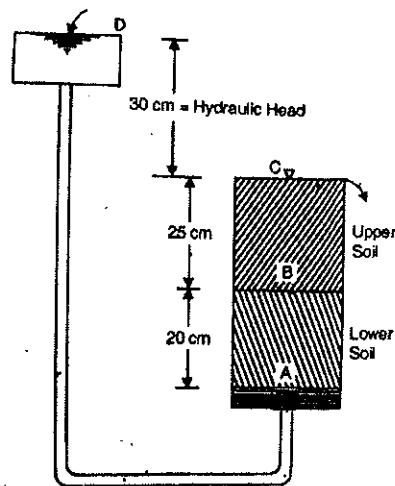

Fig. 2
- [4] In the test set – up shown in Fig. 2, two different granular soils are placed in permeameter, and flow is allowed to take place under a constant total head of 30 cm.